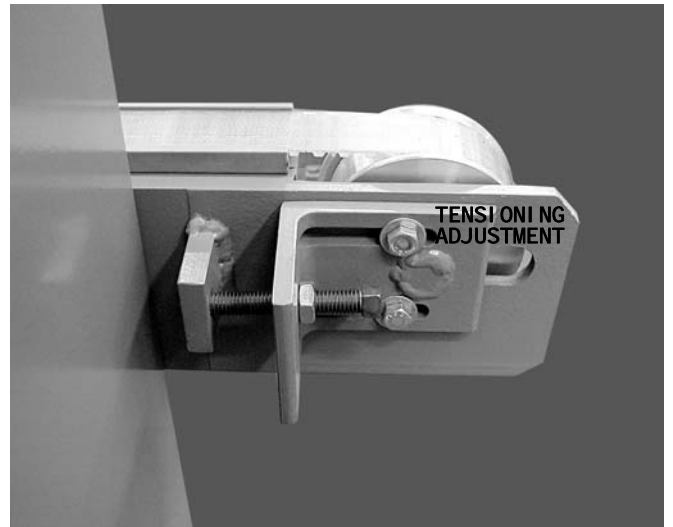

Figure 19
4. Install the conveyor belts (see Figure 19) and tighten to achieve a $1\frac{1}{2}$ to 2 inch deflection when pressing lightly on the lower part of the belt 12 inches from the pulley. Tighten the holddown screws after adjusting for proper belt tension.